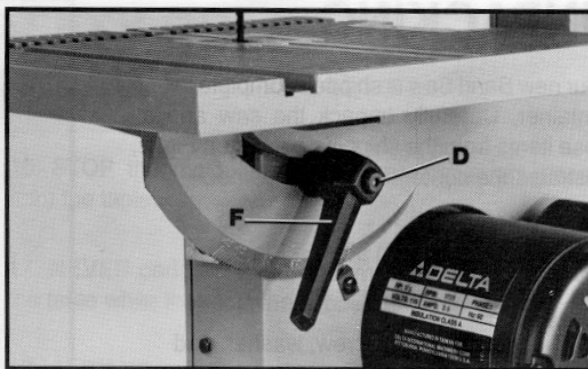

Fig. 6
6. Reassemble table locking handle (F) Fig. 6, on stud and replace screw (D) and spring. **NOTE:** Handle (F) is spring loaded and can be repositioned on the stud by pulling out the handle and repositioning it on the stud.